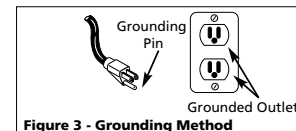

Figure 3 - Grounding Method
1. This product is for use on a nominal 120 volt circuit and has a grounding plug that looks like the plug illustrated in Fig. 3. Only connect the product to an outlet having the same configuration as the plug. Do not use